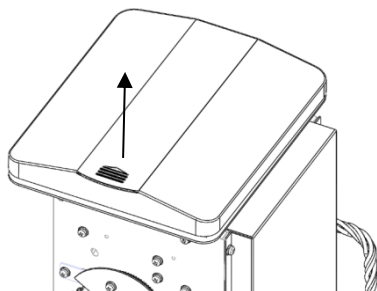

Figure 5-10
- 1) Open the sealed cap (Figure 5-10).